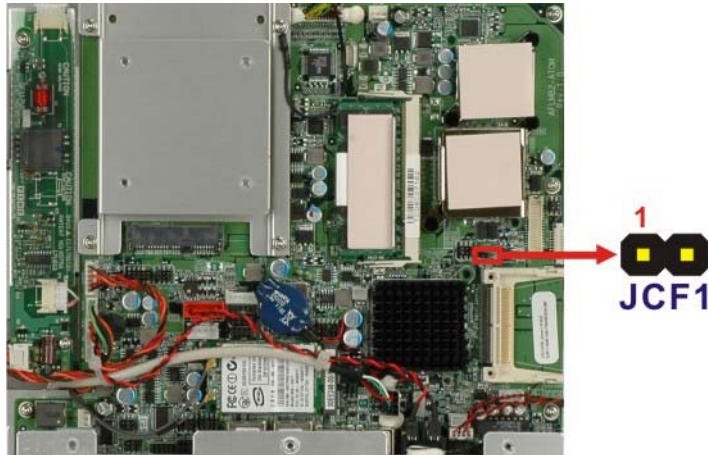

Figure 2-8: CF Card Setup Jumper Location
- Jumper Location:** See Figure 2-8
The CF Card Setup jumper location is shown in Figure 2-8.